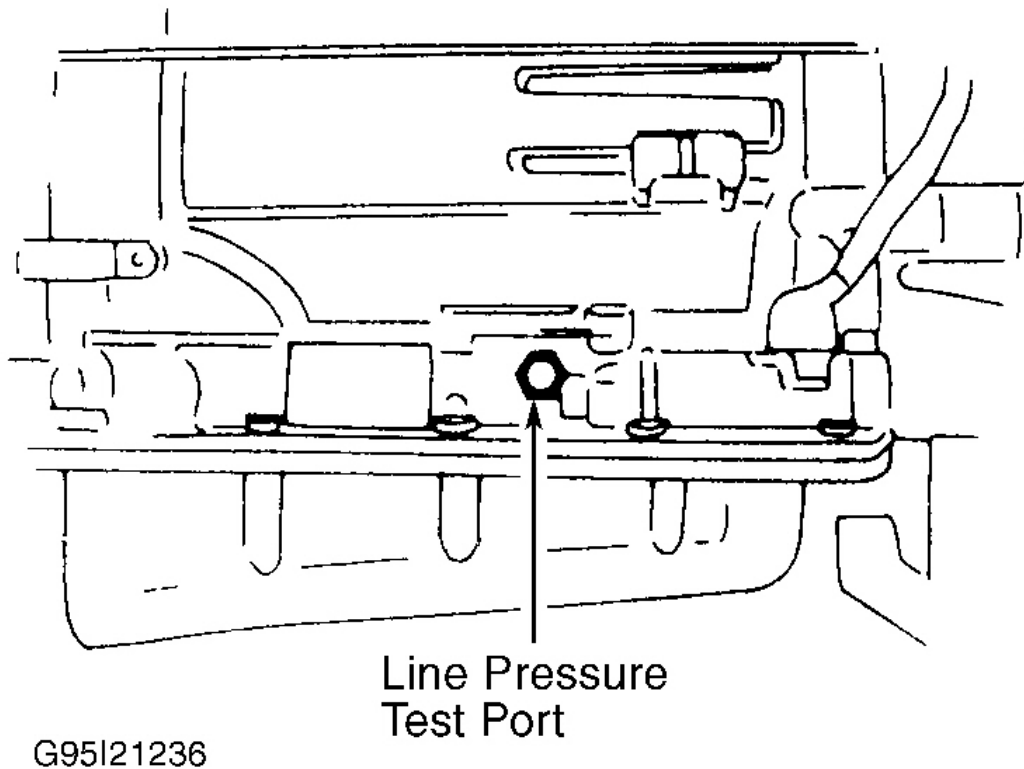

Fig. 3: Identifying Transmission Hydraulic Pressure Test Port
1. Ensure engine and transmission are at normal operating temperature. Check fluid level and add if necessary. Connect appropriate pressure gauge to line pressure test port on transmission with a 90 degree fitting to clear exhaust. See **Fig. 3**.